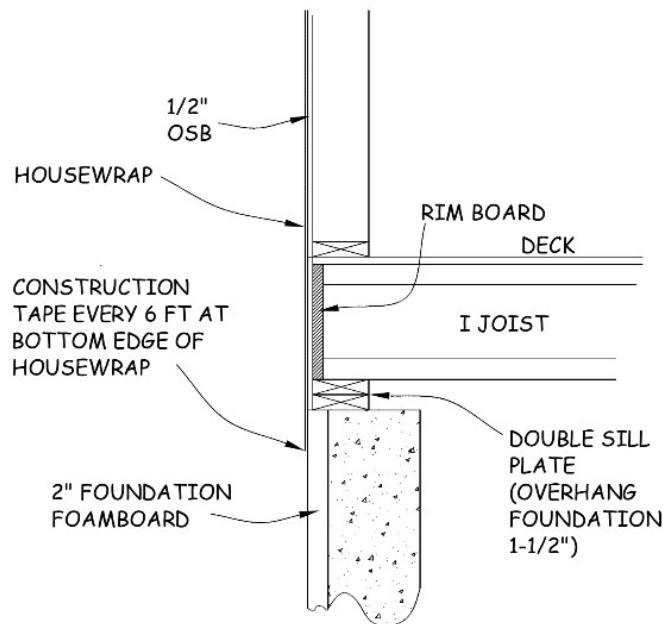

Figure 5-3. Sill Box with OSB and House Wrap.
1. Along all walls measure and cut $\frac{1}{2}$ " OSB to fit **tightly** on the exterior of the sill box, between the bottom of the wall OSB and the foundation foamboard. Nail to the deck and the sill plate using three 8d nails per foot (see Figure 5-3).